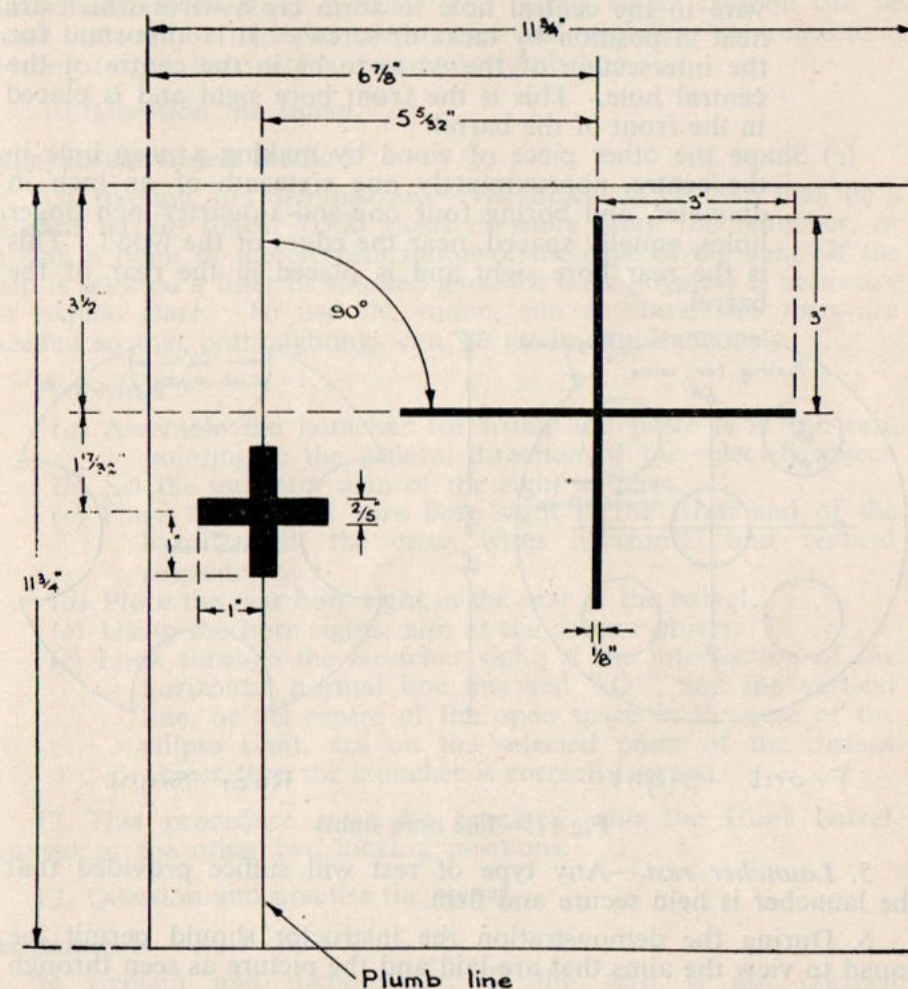

Fig 16.—The testing target
3. *Testing target* (see Fig 16).—For the testing target method of zeroing, a target as described in Fig 16 must be made locally.